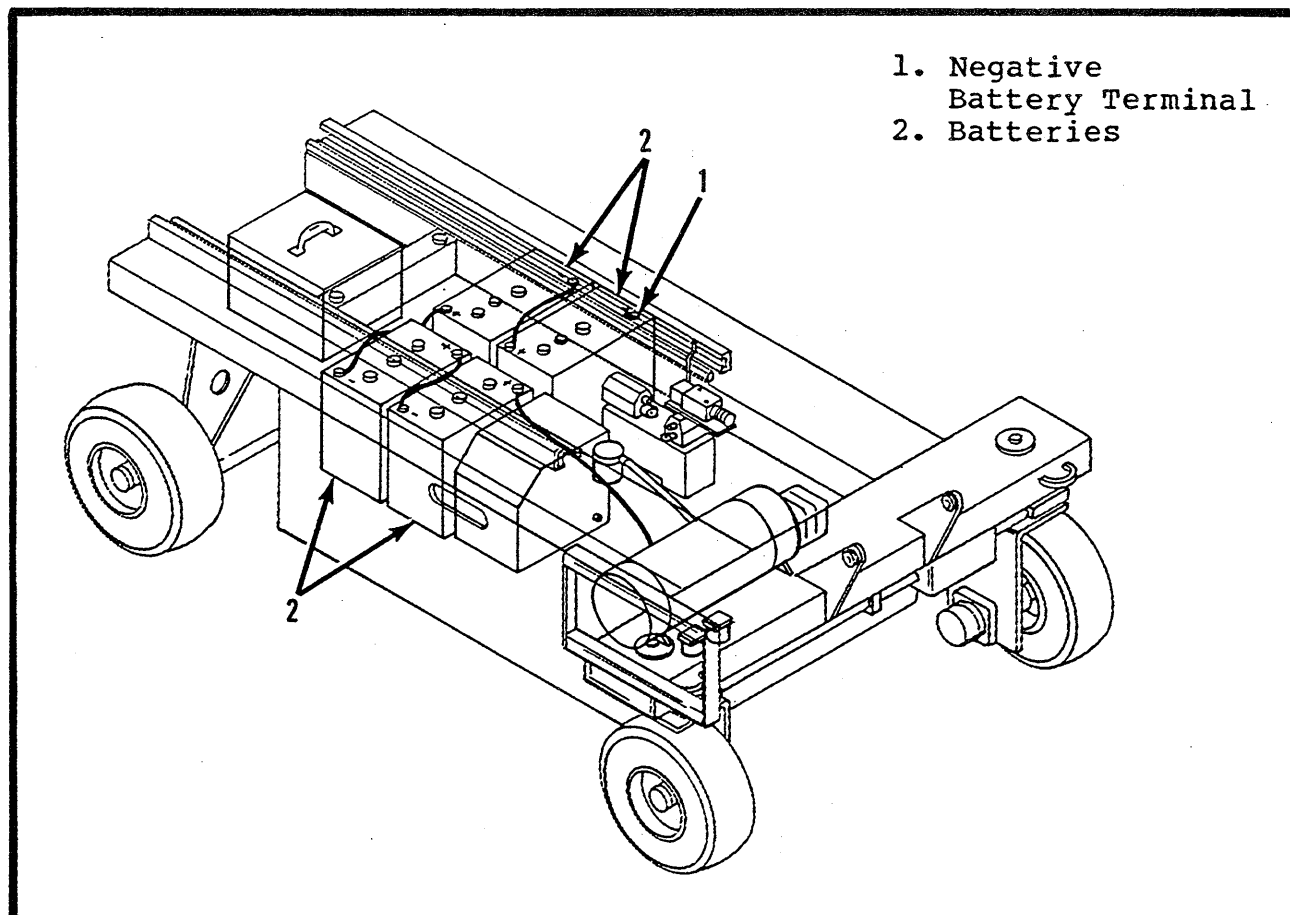

Figure 3-1. Batteries
- f. Connect the negative battery lead terminal (1, Figure 3-1).
- c. Disconnect the battery negative (-) lead from the battery terminal (1, Figure 3-1).